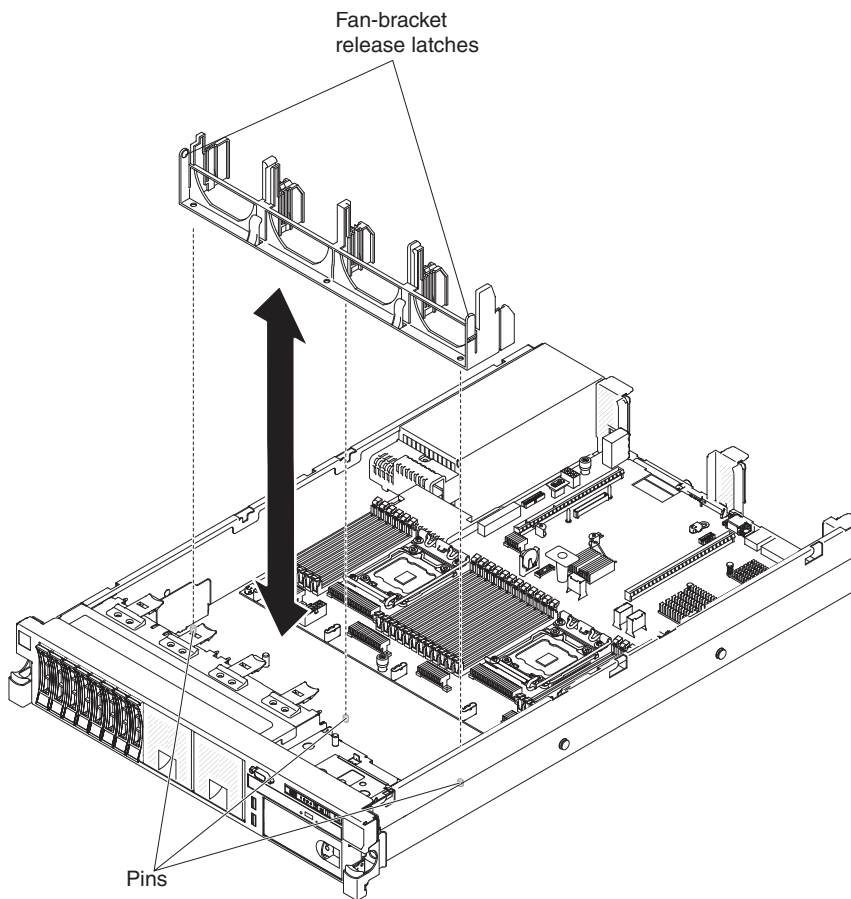

Figure 285. Removing the fan bracket
2. Press the fan-bracket release latches toward each other and lift the fan bracket out of the server, as shown in Figure 285.